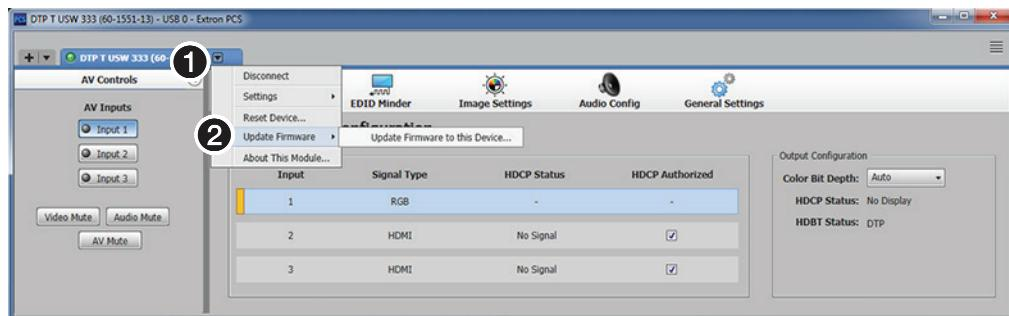

Figure 20. Update Firmware
1. Connect the computer to the rear panel Remote RS-232 port (see **item 1** on page 7) or front panel configuration port (see **item A** on page 11) of the switcher.
3. Click **Device Menu** arrow next to the unit name (see figure 20, **①**).